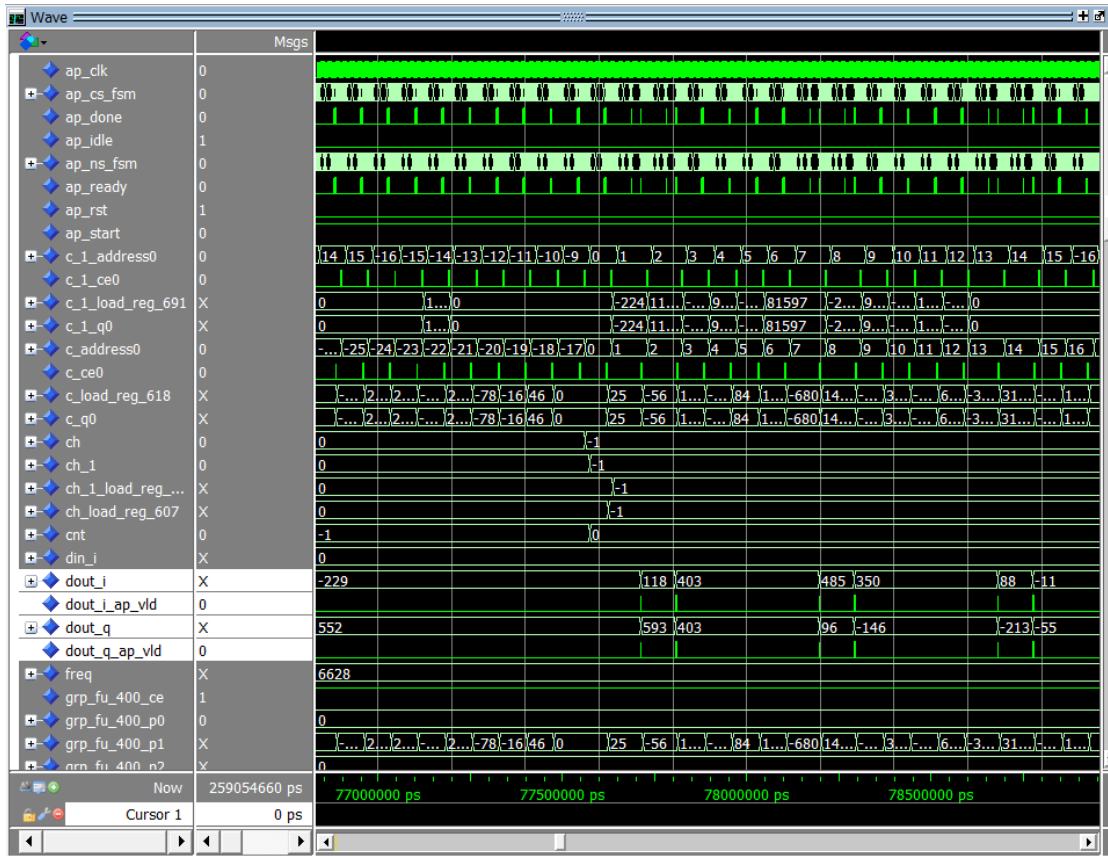

Figure 182: Viewing the Trace File in ModelSim
6. Add the signals to the trace window and adjust to see a view similar to Figure 182.